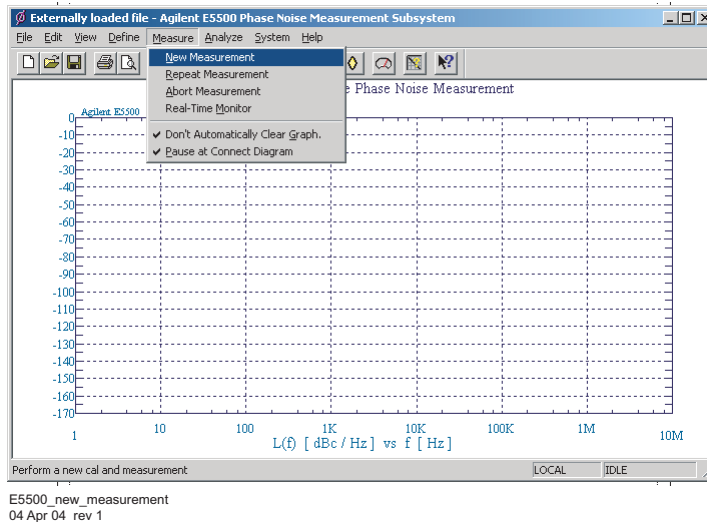

Figure 207 Selecting New Measurement
- 2 From the **Measurement** menu, choose **New Measurement**. See Figure 207.